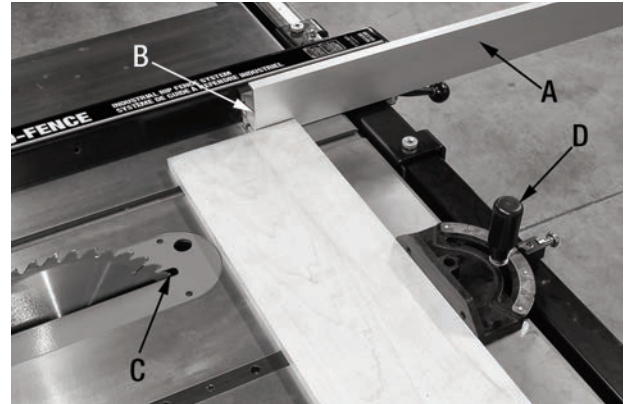

FIGURE 9
The aluminum guide (A) Fig.9 can be used as a stop when setting up and cutting repetitive cuts.
- 2) Slide the aluminum guide (A) Fig.9 towards you. For example, if your workpieces are 10" wide, position the front end (B) of the aluminum guide slightly over 10" away from the front of the blade (C).
- 4) Slide the miter gauge (D) Fig.9 into the T-slot in the table, place the workpiece up against the miter gauge (D) and the aluminum face (A).
- 5) The aluminum guide is now set-up to serve as a guide to feed the workpiece towards the blade. Once the workpiece is pushed past and clears the front end of the aluminum guide (B), the cut then begins, avoiding any chance of the workpiece binding up against the aluminum guide.